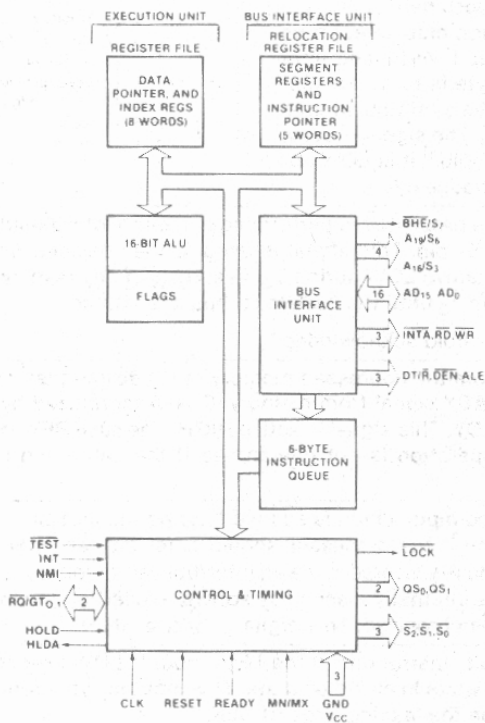

Figure 1. iAPX 86/10 CPU Block Diagram
The internal functions of the iAPX 86/10 processor are partitioned logically into two processing units. The first is the Bus Interface Unit (BIU) and the second is the Execution Unit (EU) as shown in the block diagram of Figure 1.